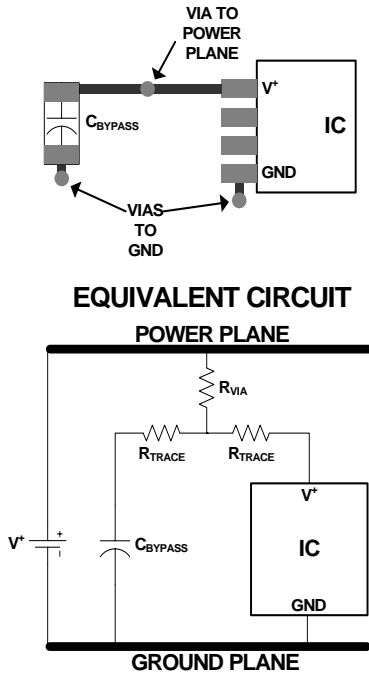
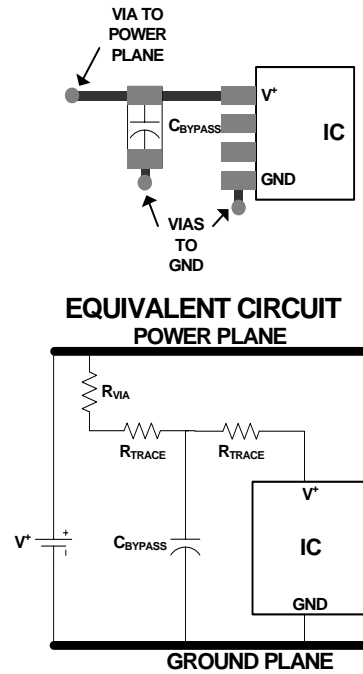

FIGURE 12. SUB-OPTIMAL BYPASS CAPACITOR LAYOUT
FIGURE 13. OPTIMAL (“T”) BYPASS CAPACITOR LAYOUT
- Ideally each supply should be bypassed to ground with a 0.1 μF capacitor. Minimize trace length and vias to minimize inductance and maximize noise rejection. Figure 12 demonstrates a common but non-ideal PCB layout and its equivalent circuit. The additional trace resistance between the bypass capacitor and the power supply/IC reduces its effectiveness. Figure 13 demonstrates a better layout. In this case there is still series trace resistance (it is impossible to completely eliminate it), but now it is being put to good use, as part of a “T” filter, attenuating supply noise before it gets to the IC, and reducing the amount of IC-generated noise that gets
injected into the supply. Follow the good supply bypassing rules shown in Figure 13 to the extent possible.